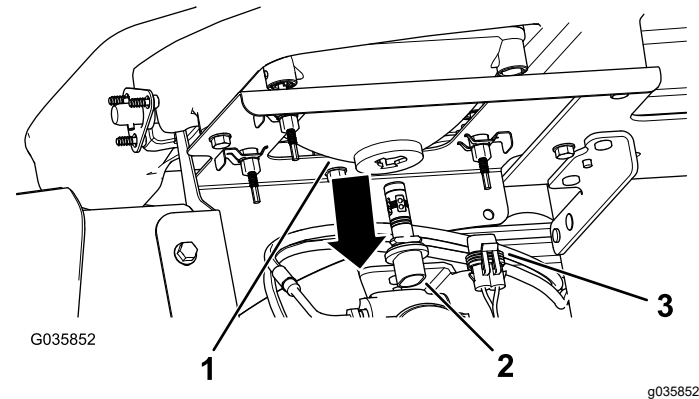

Figure 49
3. Disconnect the electrical connector for the harness from the connector of the lamp assembly at the back of the headlight housing (Figure 49).
4. Rotate the lamp assembly 1/4 turn counterclockwise and moving it rearward, out of the headlight housing (Figure 49).
with the slots in the headlight housing (Figure 49).
6. Secure lamp assembly by turning it 1/4 turn clockwise (Figure 49).
7. Connect the electrical connector for the harness to the connector of the new lamp assembly (Figure 49).